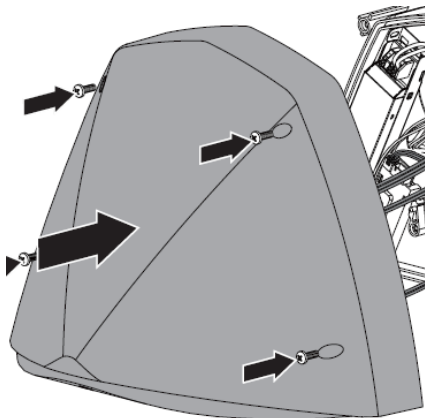

Fig. 5
- Refasten the cover (see Fig. 5)